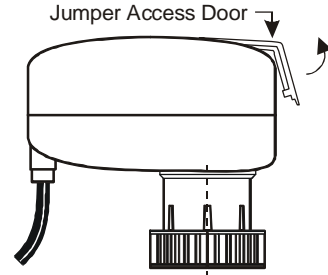

Figure 6: Opening the Jumper Access Door
- Carefully remove the jumper access door using the tip of a 1/8 in. (3 mm) blade screwdriver, as illustrated in Figure 6.